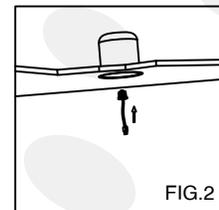

FIG.2
Connect supply wires to wires on fixture with wire nuts or push wires into Quick Connector.Connect white to white , black to black,and copper wire to copper wire as grounding connection.(FIG.2)
- Thread the SOCKET ADAPTER into the SOCKET. (FIG. 2)
- Plug the FEMALE CONNECTOR of the RETROFIT TRIM onto the MALE CONNECTOR of the HALO HOUSING. (FIG. 2)